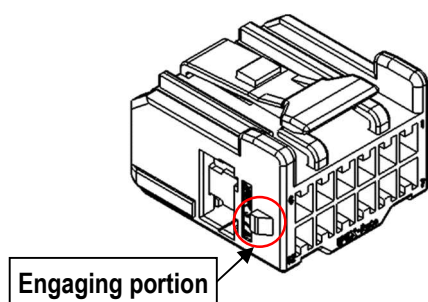

Fig 46. Corresponding Female housing for Rear cover
- ③ If there is any damage or deformation on the terminal or the housing, do not use the damaged item. Replace the item with a new one.
- ④ Only use the terminal releasing jig specified.
- ⑤ Do not insert the releasing jig into the cavities (see Fig.46)
- ⑥ Care must be taken not to damage edge of the jig (e.g. from dropping, etc.)